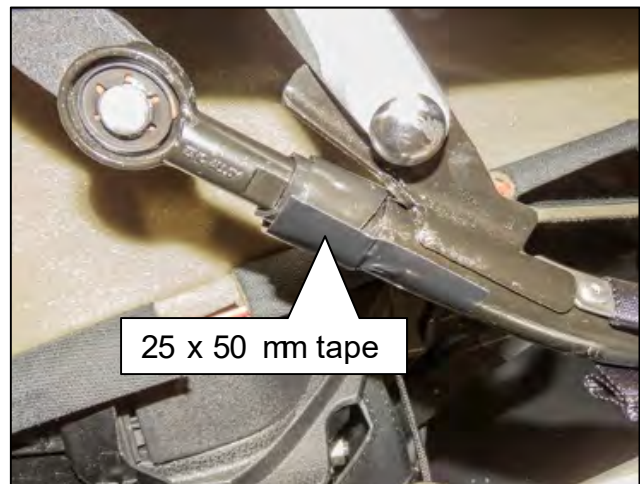

Figure 36
43. Apply the 25 x 50 mm tape (TAPE) over the bottom side of both Cover-Bd ts as shown in Figure 36.